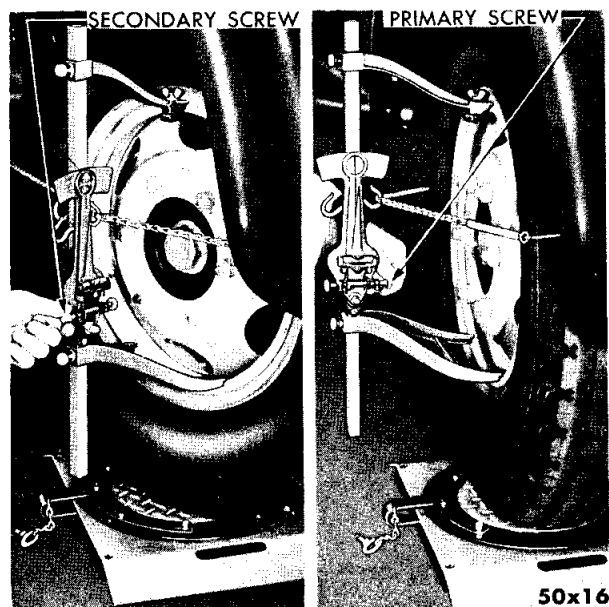

Fig. 22—Checking Caster—Gauge on Right Wheel
- (1) With the front wheels in the center of the turntables and in the straight-ahead position, attach the gauge (using the chain) to right wheel as shown in Figure 22.
- (2) Turn the front wheels to the left 20 degrees, as indicated on the turntable scale.
- (3) Adjust the secondary screw until the bubble is centered. *Do not disturb this setting.*
- (4) Turn the front wheels to the right until the right wheel is 20 degrees past the straight-ahead position.
- (5) Adjust the primary screw until the bubble is centered. The reading on the 40 degree scale of the quadrant is the caster angle. Readings from zero away from the wheel indicate reverse caster. Readings from zero towards the wheel indicate positive caster.
- (6) Check the left wheel in the same manner, but start by turning the front wheels to the right.